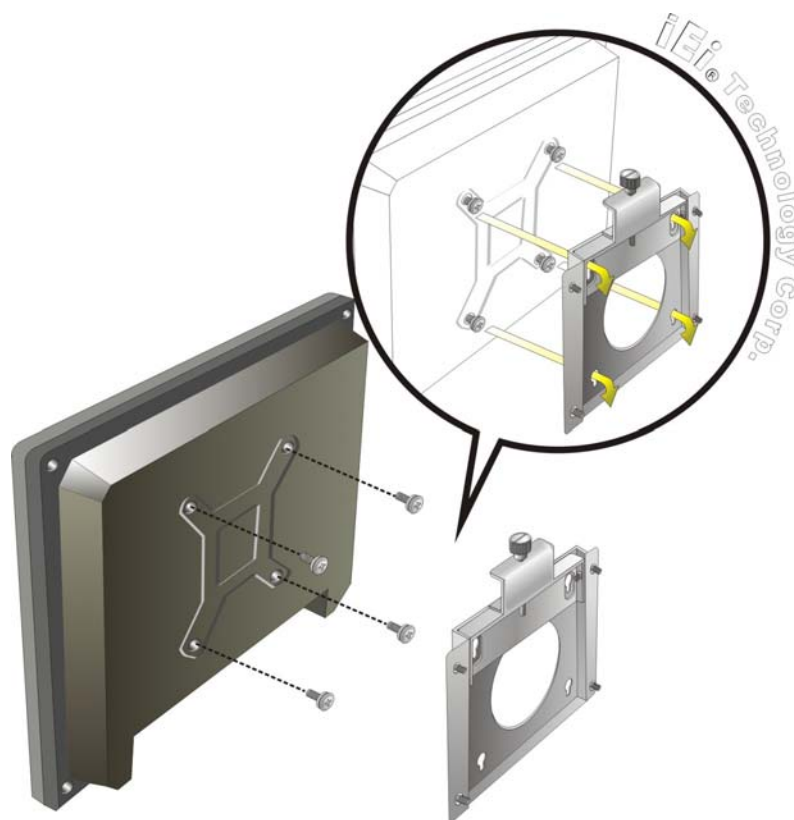

Figure 3-9: Chassis Support Screws
Step 6: Insert the four monitor mounting screws provided in the wall mounting kit into the four screw holes on the rear panel of the flat panel PC and tighten until the screw shank is secured against the rear panel (**Figure 3-9**).
Step 8: Carefully insert the screws through the holes and gently pull the monitor downwards until the monitor rests securely in the slotted holes (**Figure 3-9**). Ensure that all four of the mounting screws fit snugly into their respective slotted holes.